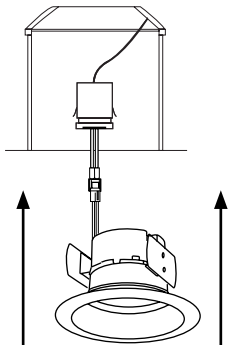

Figure 5
3. Tuck all wires into the RECESSED HOUSING and carefully push the RECESSED TRIM into RECESSED HOUSING. (Figure 5)
4. Squeeze in mounting blade on both side and carefully push fixture into the housing. (Figure 5)